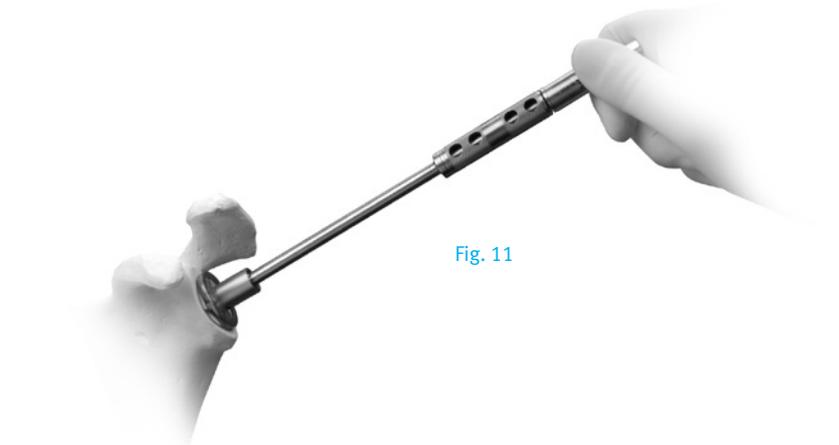

Fig. 11
**Avoid wobbling the Reamer to maintain alignment with the Pin.** The prepared surface should allow for full contact along the back side of the *Bigliani/Flatow* Glenoid (Fig. 11).